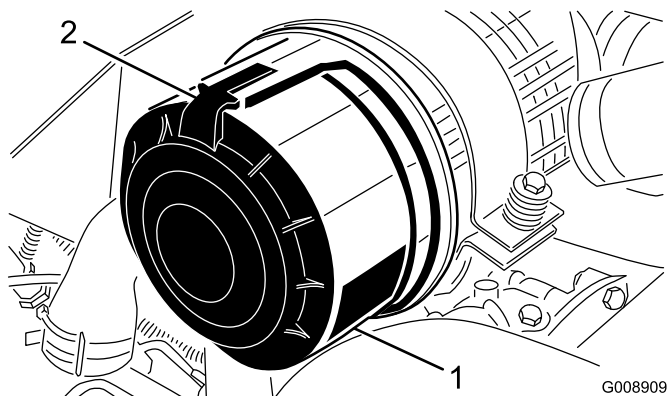

Figure 59
1. Release the latches that secure the air cleaner cover to the air cleaner body (Figure 59).